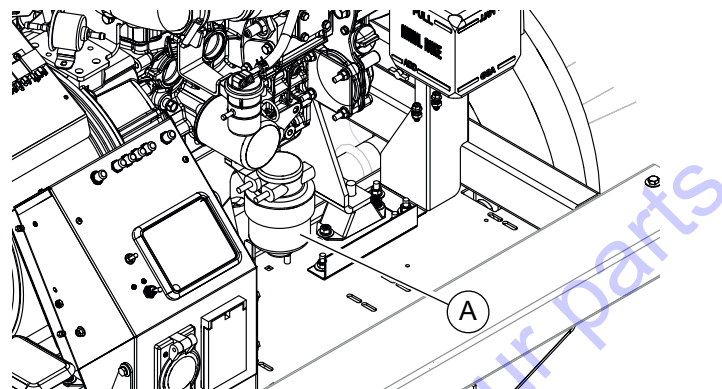

Figure 3-54. Heated Fuel Filter (MLTS)
See Figure 3-54 or Figure 3-55. An optional heated fuel filter (A) prevents diesel fuel from gelling in extremely cold temperatures. Heating cycles are automatically controlled by the Power Zone Autolight.